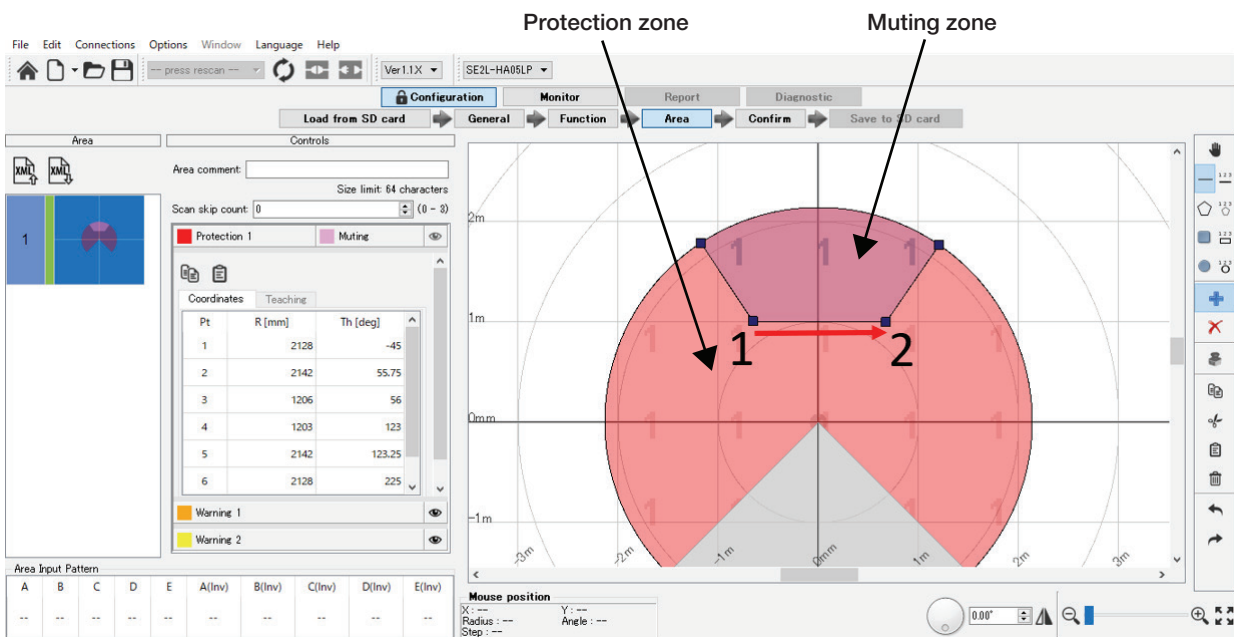

Figure 7-49 Muting zone configuration example 1
- Figure 7-49 and 7-50 shows an example of the muting zone configuration. Region in pink represents the muting zone.